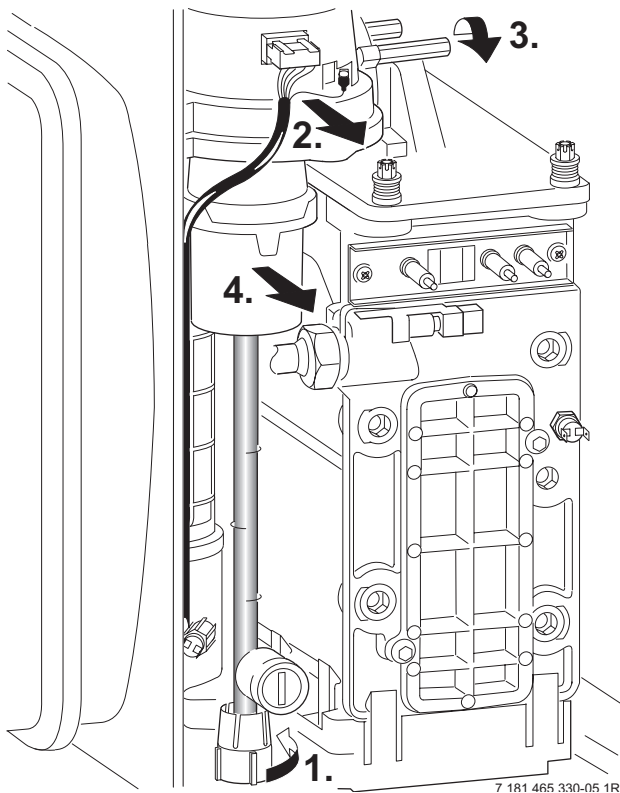

Fig. 58
- ▶ Undo lower pipe union on gas pipe (1.). Refer to fig. 58.
- ▶ Undo the union, within the inner casing, securing the valve to the gas/air tube. Refer to fig. 58.